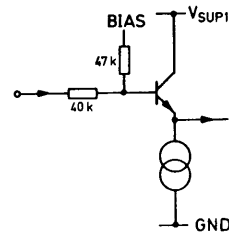

Fig. 4-1:
Pins 4 and 5 – Analog (TV) Audio Inputs I and II (Fig. 4-1)